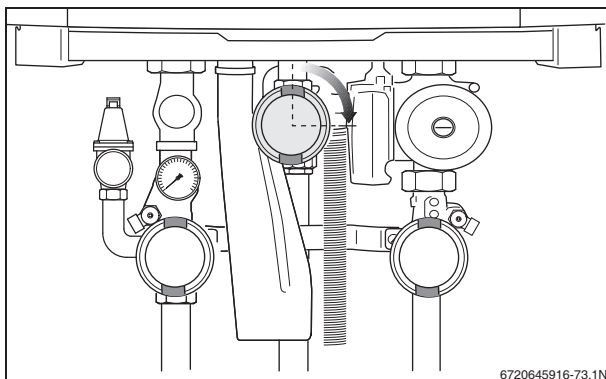

Fig. 72 Closing the gas valve
- Close the main gas supply or the gas valve (fig. 72).